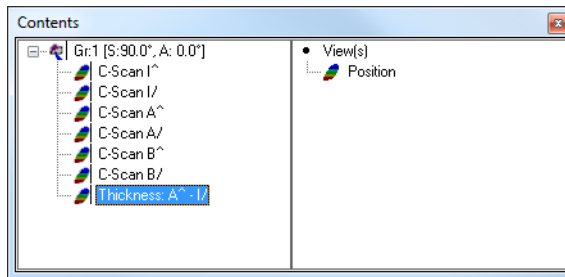

Figure 7-2 Selecting a thickness C-Scan view
5. In the **Contents** dialog box, select a thickness C-Scan view (see Figure 7-2 on page 334).